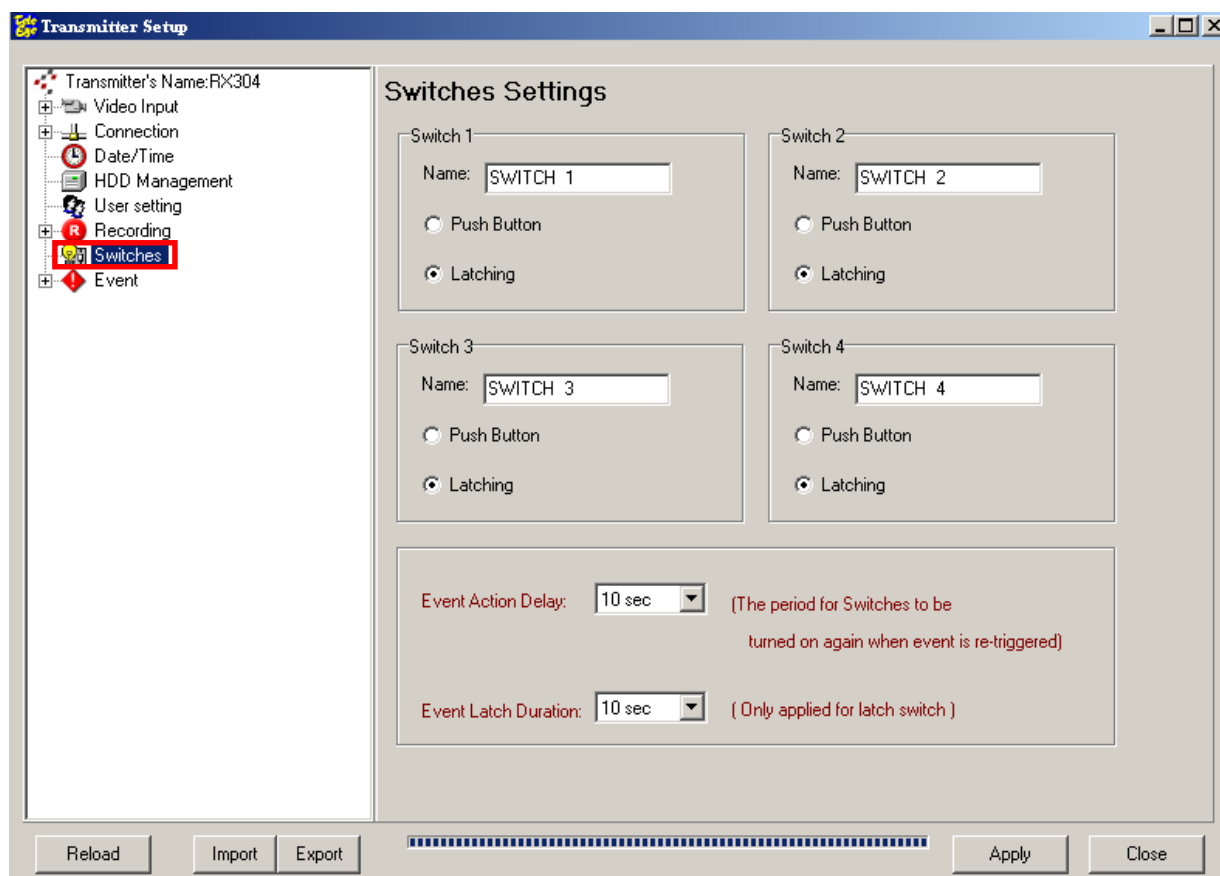

Fig 10.1c
Step 1 : Click [Transmitter Settings]  icon on the {Main Panel}. Enter the administrator password to pop up {Transmitter Setup} panel. Click [Switches] option as shown on **Fig 10.1c**.